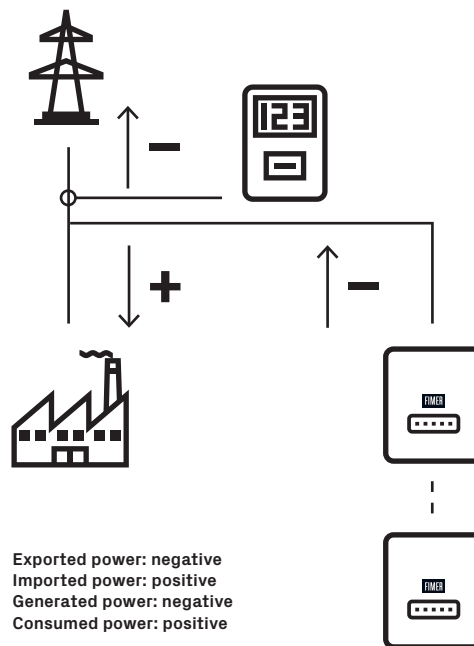

Figure 1 - Generator VS consumer reference systems
- Fig. 1 *p. 07-Generator VS Consumer reference systems*
Please refer to Figure 1 - Generator VS Consumer reference systems for a comparison between Generator and Consumer Reference systems.